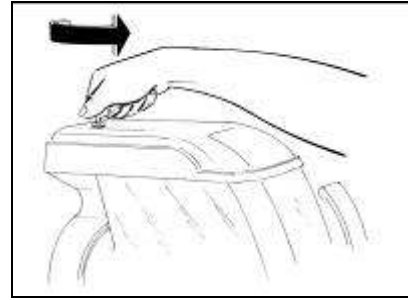

Fig. 9
- After unlocking the main cover with its key (fig.9), remove the main cover and the secondary one under it (fig.10).